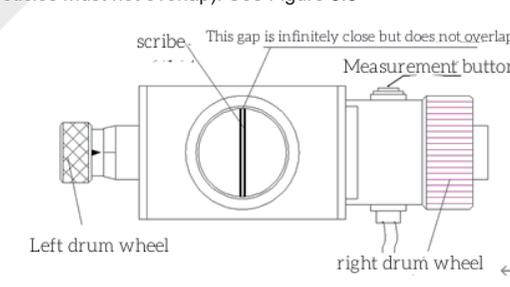

Figure 5.3 Measurement eyepiece
- 9) Add 40× Turn the objective lens (11) to the front, and then measure the diagonal length of the indentation in the micrometer eyepiece (8). If the indentation is not clear, slowly raise or lower the test bench to make it clear; If the two lines inside the micrometer eyepiece (8) are blurry, the eye mask on the micrometer eyepiece can be adjusted according to each person's vision.
- 10) Rotate the right drum wheel and move the reticle in the eyepiece, gradually bringing the two reticles closer together. When the inner side of the reticle is infinitely connected Near term (the inner side of the reticle is in a critical state without light gap, but the two reticles must not overlap). See Figure 5.3